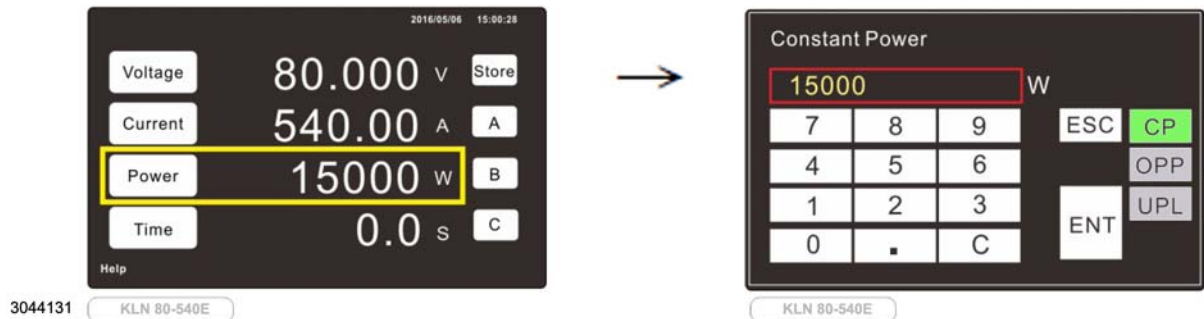

FIGURE 3-5. TOUCHSCREEN SETTING OF POWER, OVERPOWER PROTECTION AND UNDERPOWER LIMIT^{(†)(‡)}
B. TOUCHSCREEN. Touch the **Power** key (or the corresponding numerical value) shown on the display (see Figure 3-5). **CP** (Constant Power) is highlighted in green. Touch the numerical keys on the virtual keypad shown on the display in order to change the value. Touch **ENT** (Enter) key on display to confirm, or **ESC** (Escape) to cancel.
If necessary, press **HOME** switch for at least 1.5 seconds to bring up the home screen (see Figure 3-5), then touch **Power** key. **CP** is highlighted in green. To change Overpower Protection or Underpower Limit value touch the **OPP** or **UPL** key, respectively. The key changes to yellow and the **OPP** or **UPL** value is displayed. Touch the numerical keys on the virtual keypad shown on the display in order to change the value. Touch **ENT** key on display to confirm, or **ESC** to cancel.